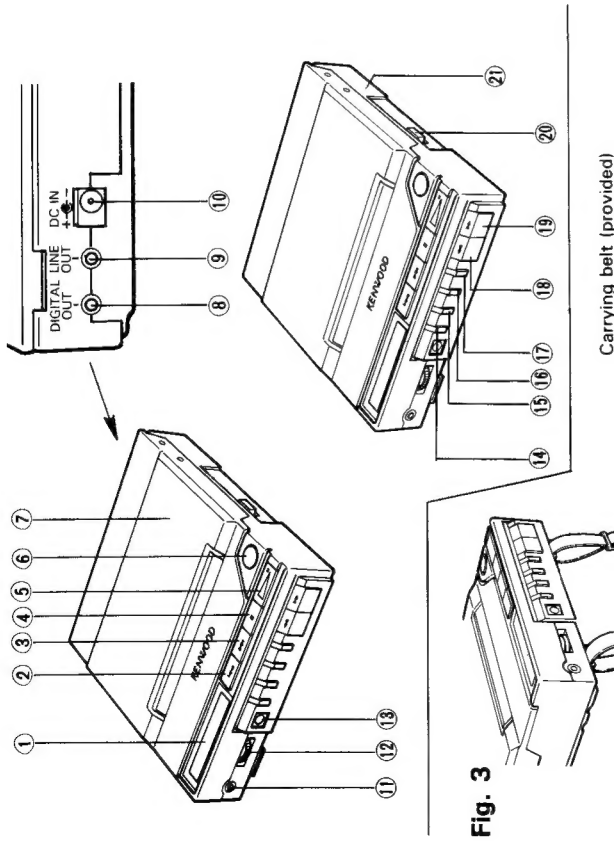

Fig. 3
- Attach the carrying belt as shown in the Fig. 3